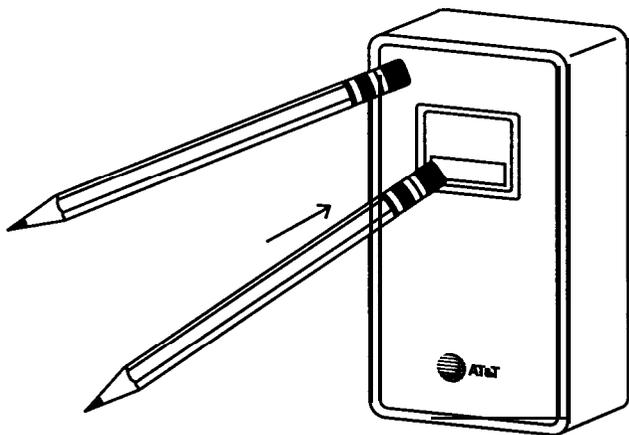

Figure A-1 Installer Testing Link
1. Refer to Figure A-1. Use a long wooden pencil, or other non-metallic device to hold the transmitter in place. You must keep away from the transmitter, since your body can affect the transmission of the radio signals.